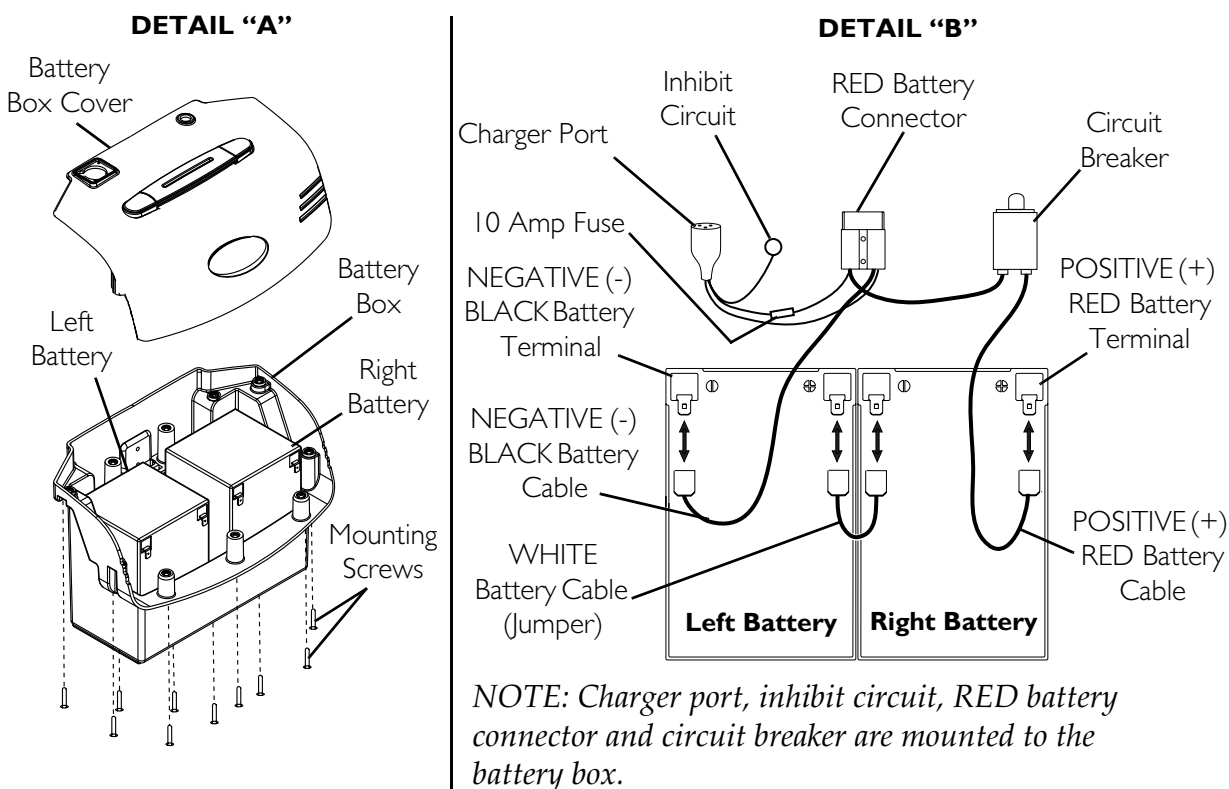

FIGURE 8.5 Removing/Installing the Batteries From/Into the At'm QT Battery Box
NOTE: For this procedure, refer to FIGURE 8.5 on page 50.
2. Remove the ten mounting screws that secure the battery box top to the battery box (Detail "A" of FIGURE 8.5).
3. Disconnect the wiring harness from the batteries by holding the connectors and pulling them in the following order (Detail "B" of FIGURE 8.5):
2. Connect the wiring harness to the batteries in the following order (Detail "B" of FIGURE 8.5):
3. Replace the top of the battery box and secure with the ten mounting screws (Detail "A" of FIGURE 8.5). Securely tighten.